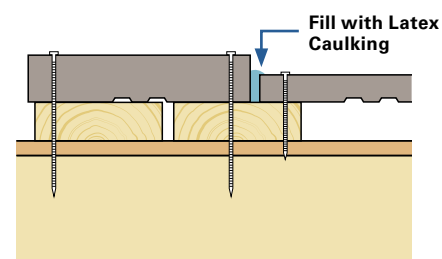

Fig. 16
- Use a high-quality clear or paintable latex caulking to fill all gaps and seal around doors, windows and anywhere the siding meets the trim. (See Figure 16)